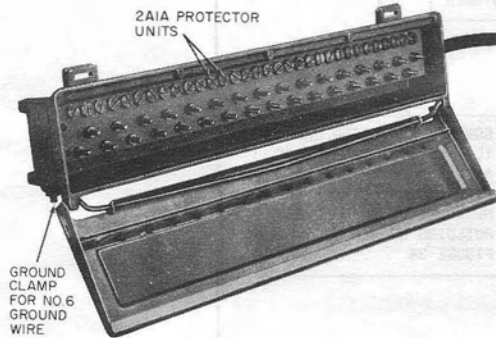

Fig. 10—NH16 Cable Terminal
3.17 The NH16 cable terminal (Fig. 10) may be strand-, pole-, or wall-mounted. Where the NH16 cable terminal is wall-mounted on the premises of a customer, it must be bonded (grounded) to an acceptable ground (Table D).